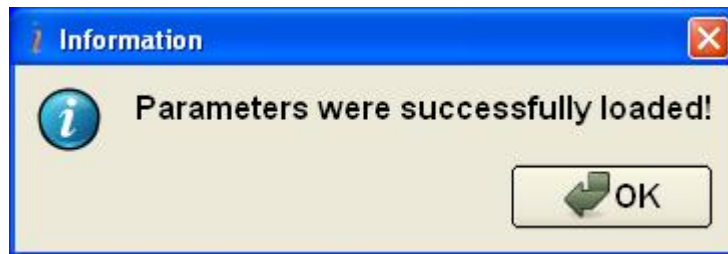

Fig.5.1
6. Select file with extension .prm containing the factory settings of the AHRS parameters or own file created by «**Save parameters**» command (if this file contains valid data of course). Click «**OK**». A message shown in the Fig. 5.1 will appear.